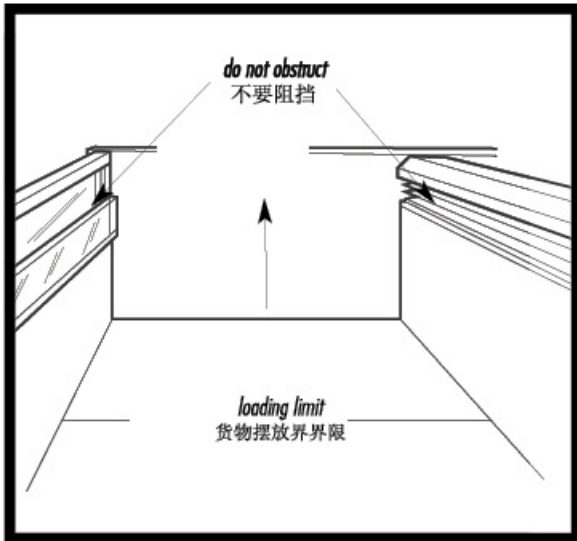

fig. 15
- the load limit line is not exceeded and products do not hamper correct cool air circulation (see fig. 15, page 6).